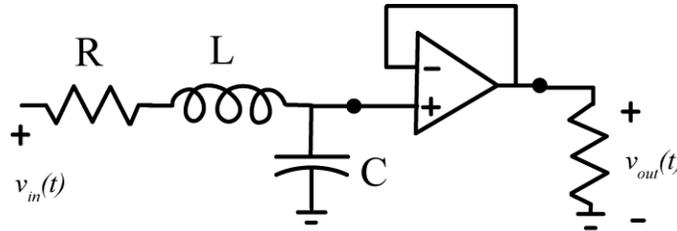

Figure 15. Our second order system
- 2) Modify your circuit so the plant and isolation amplifier is as shown in Figure 15. Again the resistor is $1\text{ k}\Omega$, but the capacitor is a $0.01\ \mu\text{f}$ capacitor, and the inductor is a 33 mH inductor (we've used the inductor and capacitor before in Lab 2).